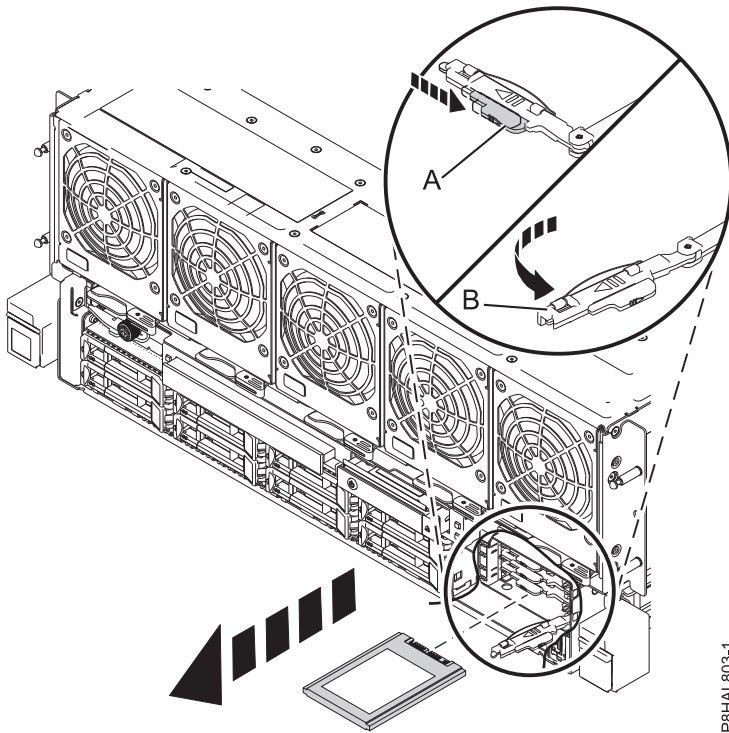

Figure 23. Removing an SSD from an 8408-44E or 8408-E8E system
10. When the identify LED turns on solid, unlock the drive bay handle (**B**) by pushing the handle latch (**A**) in the direction that is shown and pulling the drive bay handle (**B**) out toward you, as shown in Figure 23 on page 36. If the handle is not all the way out, the solid-state drive cannot slide out of the